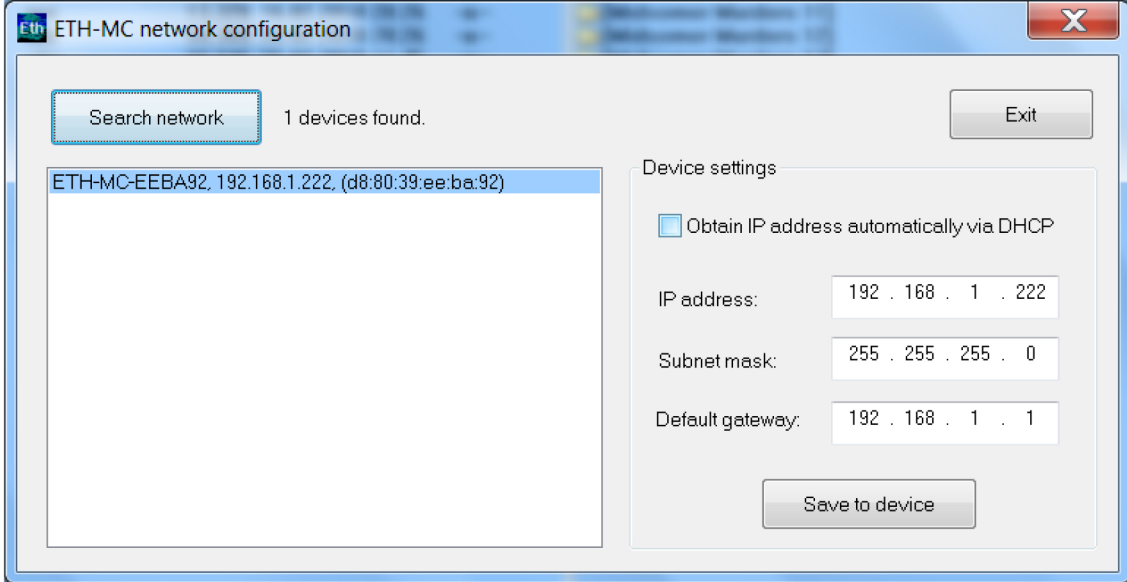

Figure 1.6 Software for configuring network parameters of the ETH motion card
Also, instead of manually setting parameters, it is possible to turn on the option to obtain IP address and other network settings automatically from the router by using DHCP protocol (Figure 1.6).
1.5 Software for configuring network parameters of ETH motion card keeps network parameters in its EEPROM. Figure 1.6 presents factory set values of these parameters and if needed these parameters can be changed and stored to EEPROM of ETH motion card.